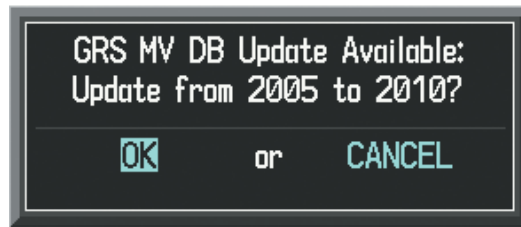
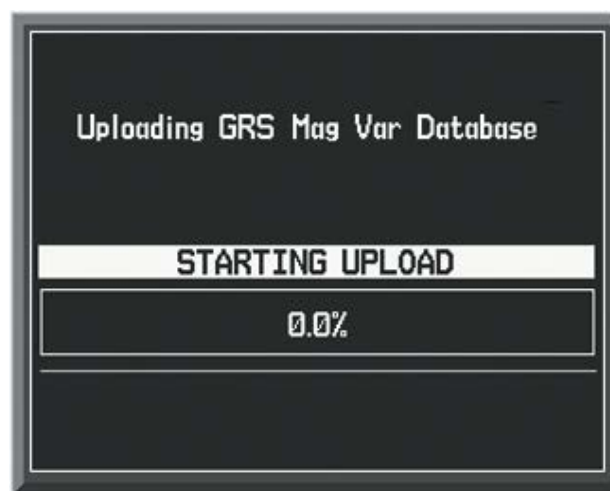

Figure B-9 GRS Magnetic Field Variation Database Update Prompt
Figure B-10 Uploading Database to GRS
- 1) With 'OK' highlighted, as shown in figure B-9, press the **ENT** Key on the MFD. A progress monitor is displayed as shown in Figure B-10.